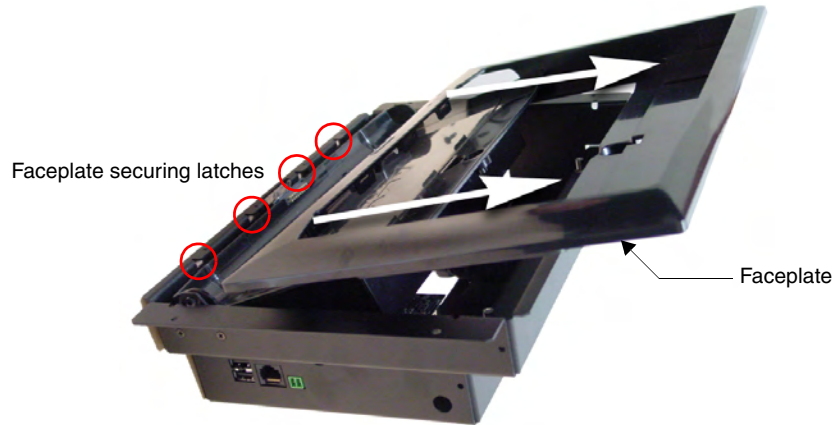

FIG. 20 Faceplate removal from MVP-WDS
13. In one single motion, use your thumbs to push the bottom rim towards the cradle, and then pull it upwards to slide the four faceplate connectors up and away from their respective securing latches along the bottom of the MVP-WDS (FIG. 20).
- Be sure to snap the Faceplate Connectors into their respective Latches (located along the bottom rim of the faceplate - see FIG. 20 on page 20).